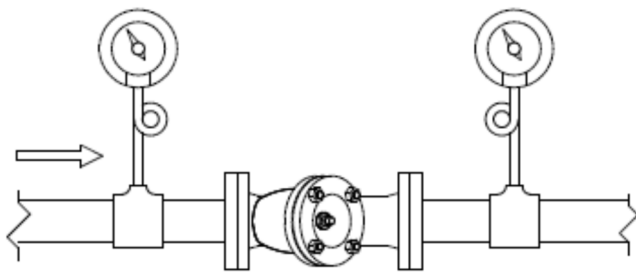

Fig.2
- (2) They shall be installed with the cap or cover (2) facing downward. If drainage or similar problem may occur in a steam line, the cap or cover shall be installed so that the cap or cover faces sideways. (See Fig.2)